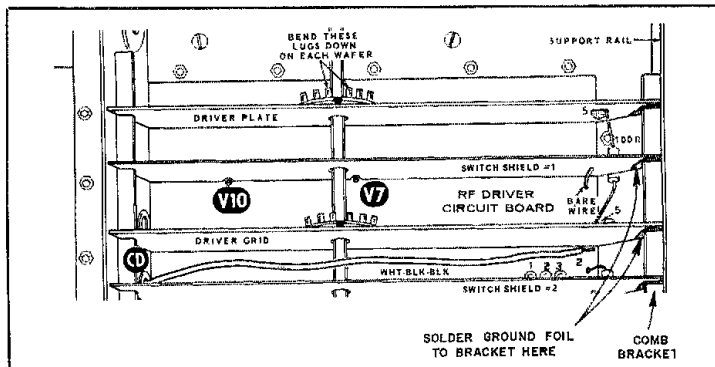

Fig. 3 — Pictorial diagram showing where NØAXK soldered the ground foil of the driver grid-switch board to the supporting comb bracket.
□ My Heath HW-101 developed a sudden problem that had a simple cure. I noticed that the rig would start to oscillate on every band as I tuned it for maximum-rated output power. My first guess was that the driver or final-amplifier tubes were weak, but they proved to be okay. Further checking turned up a ground foil on the driver grid-switch board that was not making contact with the comb bracket. Fig. 3 shows a portion of detail 8-19A, found on page 99 of the HW-101 manual. My construction manual contains no mention of the need to solder this connection, but after I did, the oscillation was eliminated. Later manuals include this step. I suggest you check your transceiver to see if the connection is soldered. — *Robert St. Amant, NØAXK, Edina, Minnesota*